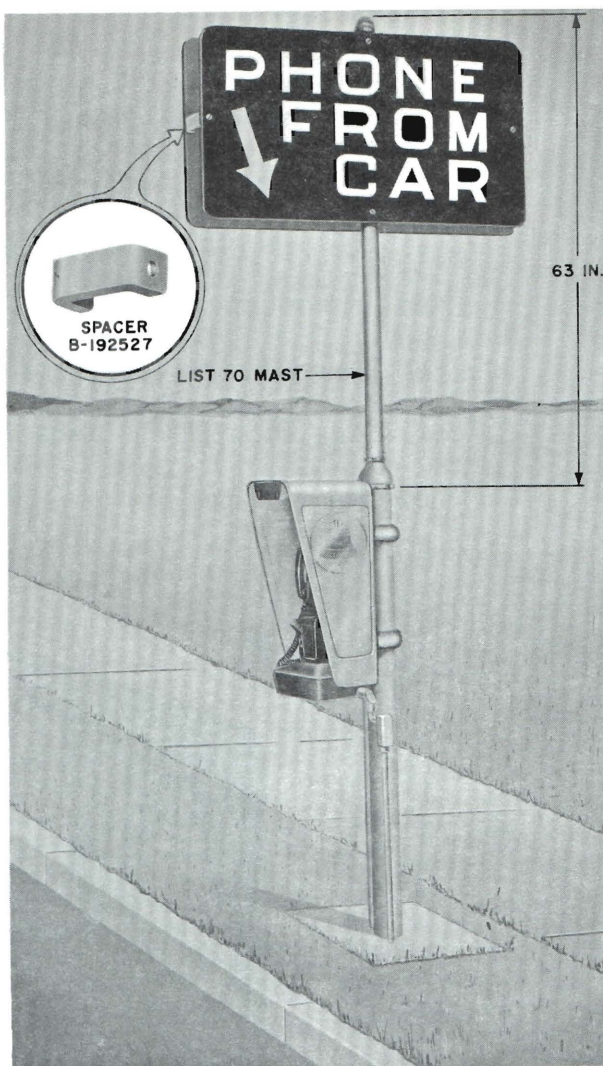
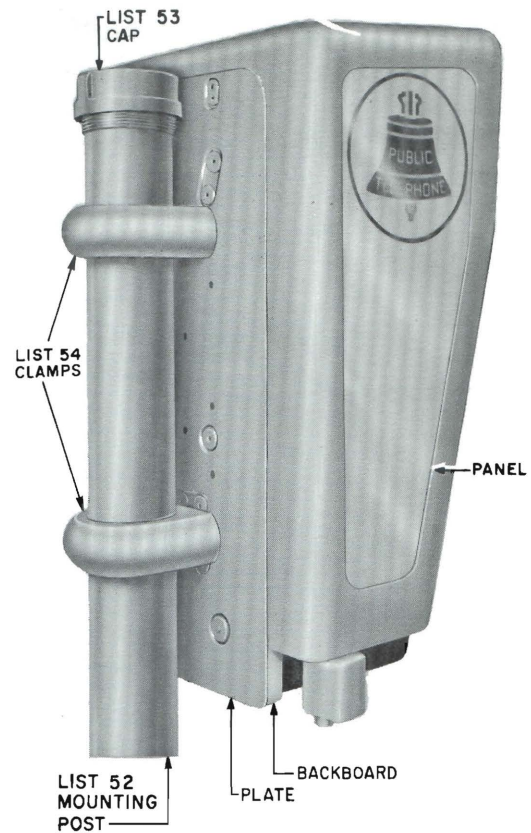

Fig. 4 — Drive-Up Installation
Fig. 8 — Mounting KS-16705, Fastened to Mounting Post
2.03 The drive-up public telephone makes it possible for a customer to place a call without leaving the vehicle (Fig. 4).
3.02 An extension mast for attaching public telephone signs can be used on top of the mounting post. Two spacers are furnished with the KS-16705, List 70 mast to space out the ends of signs (Fig. 4). When mast is not used, a cap is placed on the post (see Fig. 8).